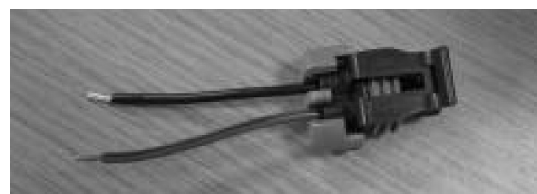

Figure 4
- B. Strip each wire 1/4 inch (Fig. 4).